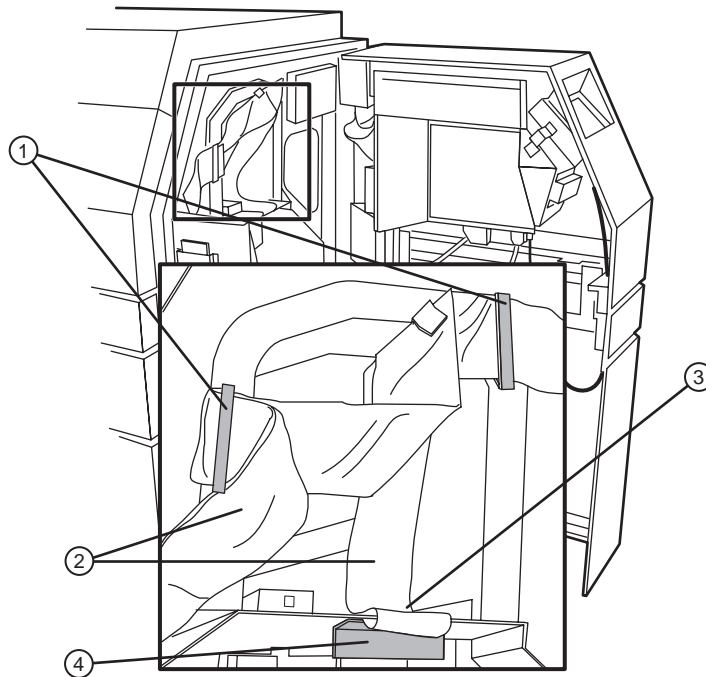

Figure 4-42 Opening the cable clamps and removing the cables to gain access to the supply motors and sensors.
①—Top cover. ②—Bridge. ③—Light shield.
8. Release the tie clamps and bracket on the inner light shield (shell surrounding the motors and sensors) that secure the ribbon cables coming from the supply SDM and carriage board. Refer to Figure 4-42.